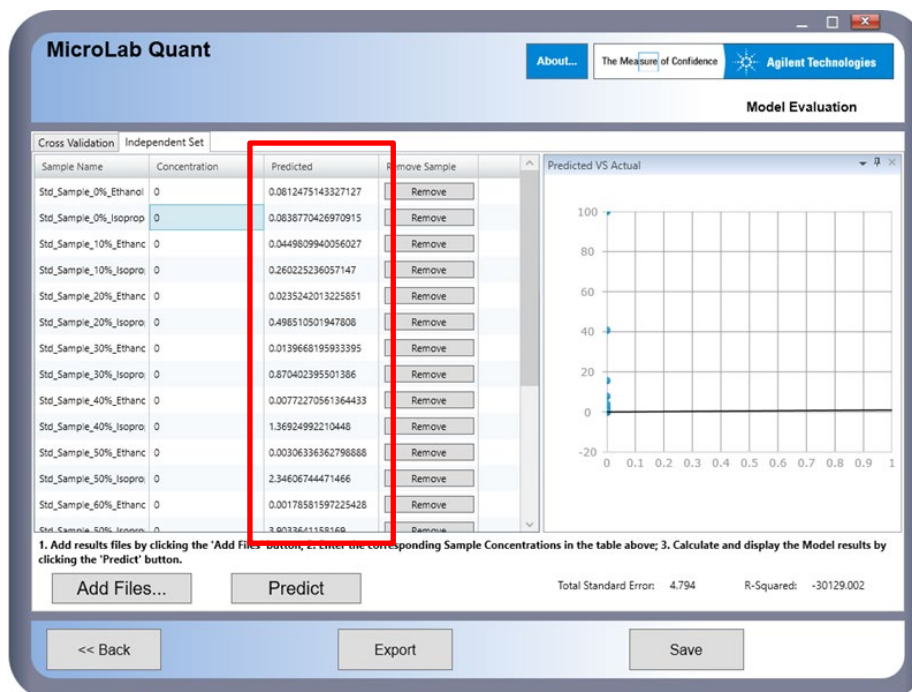

Figure 21. Predicted versus actual values
- 8 Find the highest value of the ethanol standards in the Predicted column in the Quant model and note it down. See Figure 21 and Step 24 in the section "Create a Quant model for ethanol and isopropanol differentiation" for more information.